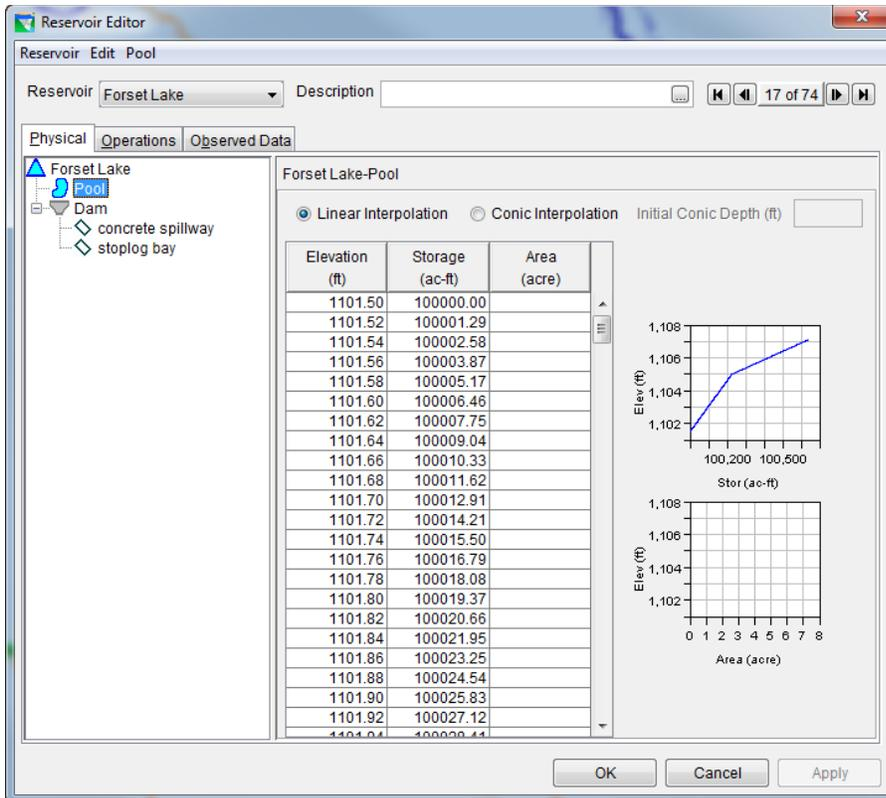
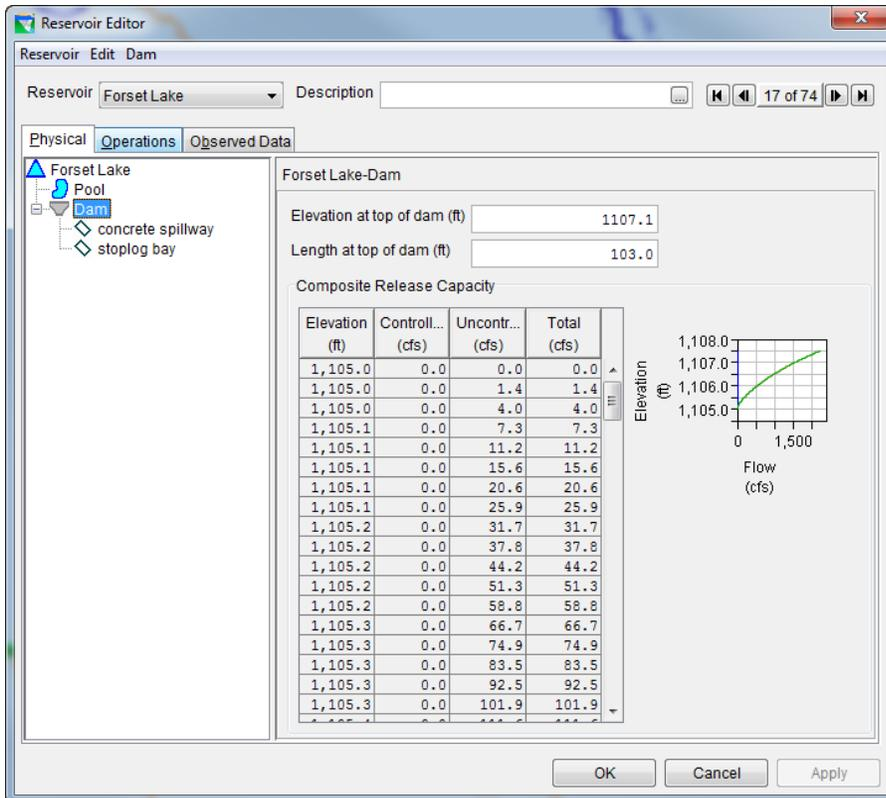

Figure 3: Reservoir Editor: Physical Tab -- Pool
Figure 4: Reservoir Editor: Physical Tab -- Dam
The physical characteristics of the reservoir are separated between the Pool and the Dam in the HEC-ResSim model. The elevation-storage-area defines the pool as shown in Figure 338. The dam consists of two types of outlets: (1) an uncontrolled concrete spillway, and (2) an uncontrolled stoplog bay as shown in Figure 4.
The physical characteristics of the reservoir are separated between the Pool and the Dam in the HEC-ResSim model. The elevation-storage-area defines the pool as shown in Figure 339. The dam consists of two types of outlets: (1) uncontrolled outlet and (3) power plant as shown in Figure 41,40. The capacity of the power plant was made to be the maximum release specified in the NID database so that the dam would modeled completely as run-of-river with some actual physical information.